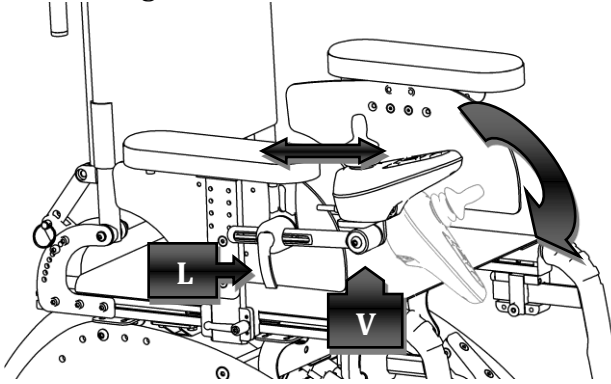

Figure 9
Loosen the lever (L), as shown in Figure 9, so it is possible to move the joystick in accordance with the directions indicated to reach the desired position. Retighten the lever.